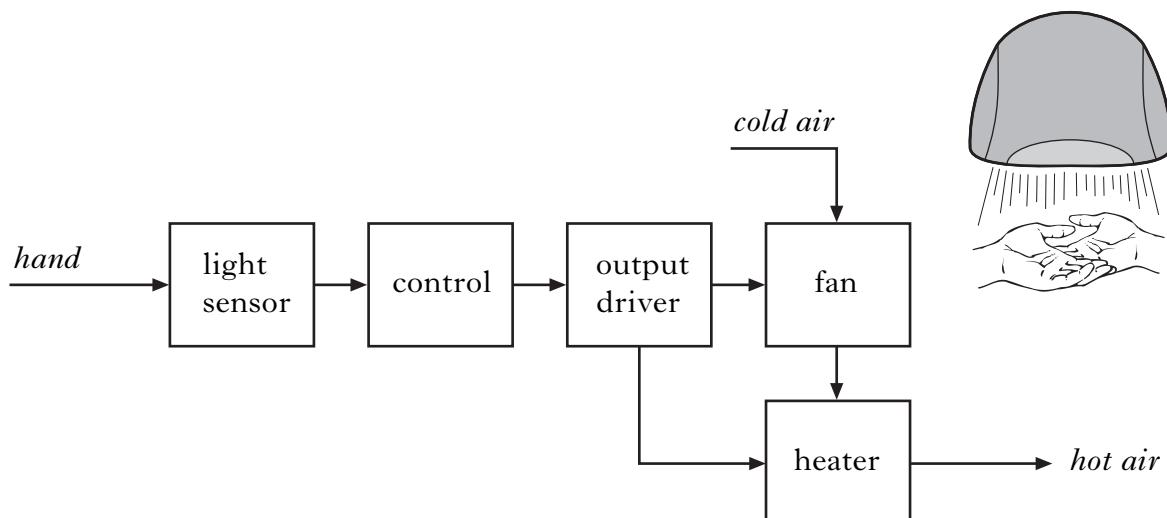

Figure Q4
4. Figure Q4 shows a simplified sub-system diagram for a hand dryer.
- (a) Describe, with reference to Figure Q4, the operation of the hand dryer.
- (b) Add the system boundary to Figure Q4.
- (c) (i) State the type of control shown in Figure Q4.